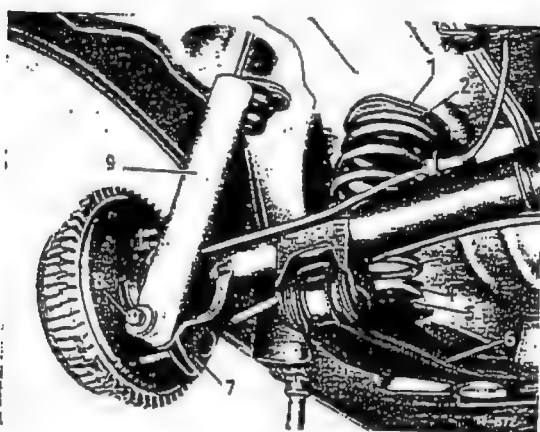

Fig. 32-5/1
2. Slightly raise the axle tube by means of the jack (Fig. 32-5/2).
Note: When raising the axle tube, the jack can be placed either under the torque arm or, together with Flange 111 589 01 63 (5), under the rear axle shaft (Fig. 32-5/2).